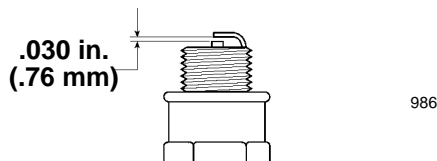

Figure 13
3. Set the gap on the new plug to 0.030" (0.76 mm) (Fig. 13).